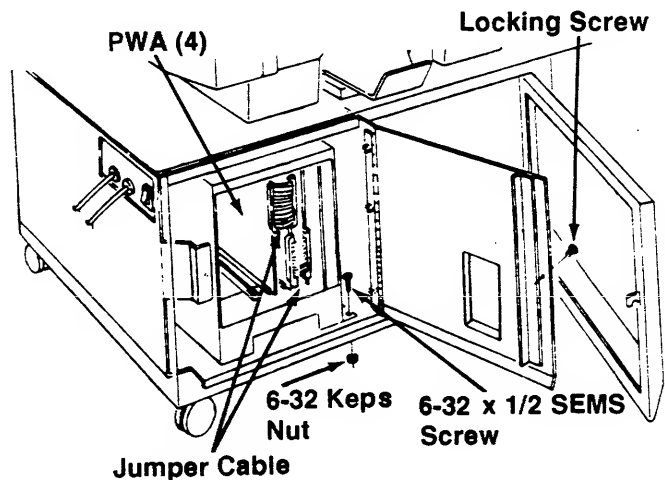

Figure 2-3.1G
21. Remove the Locking Screw securing the Card Cage Door (Figure 2-3.1G) and open the door.
22. Install a 6-32 x 1/2 In. Screw (Item 24) and 6-32 Keps Nut (Item 25) on the right side of the Page Search Module Into the Base of the Workstation (Figure 2-3.1G).